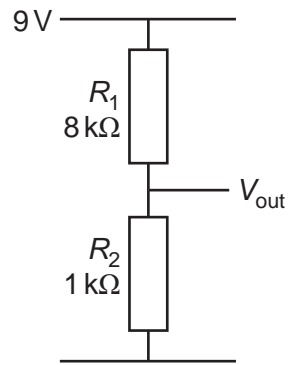

Fig. 5
- 6 (a) Find the output voltage,  $V_{\text{out}}$ , of the circuit shown in Fig. 5.